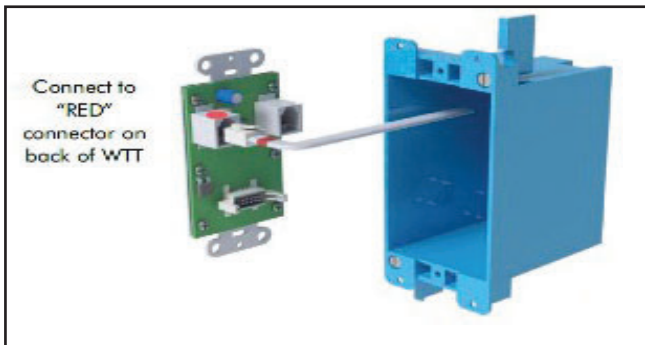

FIGURE 7 - PLUG CABLE TO WALL CONTROL
4. Connect the cable to the wall control (WTT). Plug the cable into the "RED" RJ12 Connector on the back side of WTT. Refer to FIGURE 7 and DIAGRAM 1 for cable connections.